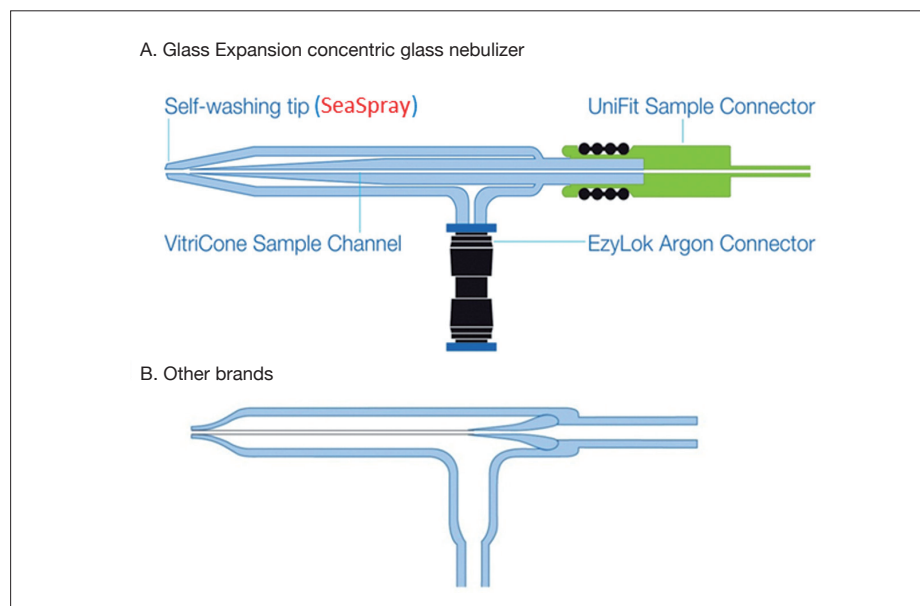
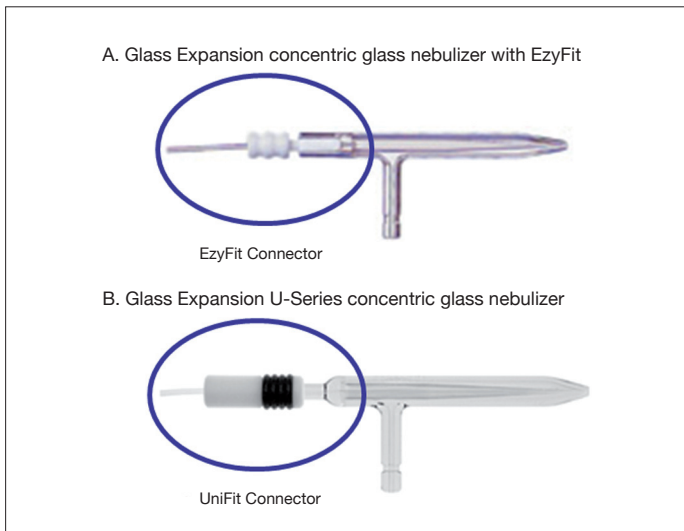

Figure 1: Glass Expansion VitriCone construction versus other brand glass concentric nebulizer.
Figure 2: Glass Expansion EzyFit and UniFit sample connector.
Glass Expansion is most notably known for the unique VitriCone™ sample channel of the glass concentric line of nebulizers (MicroMist, SeaSpray, Conikal, and Slurry). The VitriCone sample channel is created by machining constant bore heavy stock glass tubing to create the desired aerodynamic exterior while maintaining a consistent internal diameter. Other manufacturers heat and draw a thin fragile capillary from glass tubing to create the internal capillary. This process is prone to a number of potential problems including inconsistent inner diameter, an increase in the porosity of the glass, and harmonic vibrations from the flow of argon, all of which degrade performance and lifetime. A diagram comparing a Glass Expansion nebulizer (A) to other brands (B) is shown in Figure 1.
In 2009 Glass Expansion introduced the U-Series™ glass concentric nebulizer. The previous design used an EzyFit™ sample connector that slides into the sample arm port. Because the end of the EzyFit connector did not always exactly match the end of the port in the nebulizer arm, a small gap could result to varying degrees. The U-Series nebulizer features instead a UniFit connector that slides easily over the sample arm of the nebulizer creating an excellent seal and a zero dead volume connection. You can see in Figure 1 (A) that the VitriCone sample channel of the U-Series glass concentric nebulizers is uniform from entry point to the nebulizer tip. Since there is nowhere for the sample or particulates to be trapped, you get the fastest possible washout and highest sample throughput. A comparison of the EzyFit connector (A) and UniFit connector (B) is shown in Figure 2. All of the glass concentric nebulizers (MicroMist, SeaSpray, Conikal, and Slurry) are available in the U-Series style. The U-series nebulizer still includes the same EzyLok argon connector line for safe, easy, and effective connection to the argon supply line. The U-Series glass concentric nebulizers will deliver the same outstanding performance as the EzyFit style since the internal construction is unchanged, but provide all the benefits of the UniFit connector. Another modification implemented at the same time as the U-Series design was to specify all nebulizers at 40 psi (276kPa), which was the pressure found to give optimum performance. Since all nebulizers now have the same pressure specification, we changed the part number prefix from ARxx to ARG.